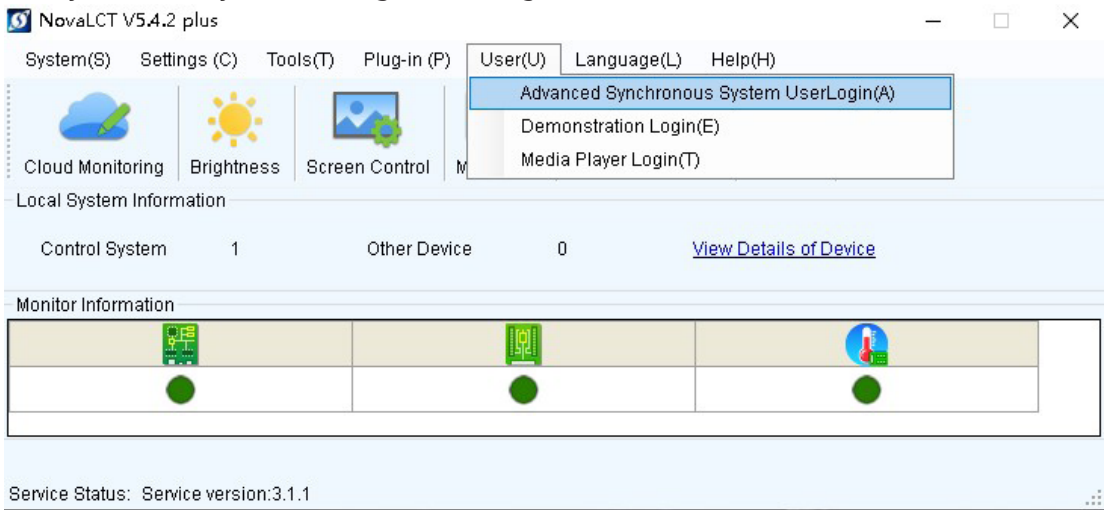

Figure 1-1
- 1. Select Advanced Synchronous System User Login(A). See Figure 1-1.